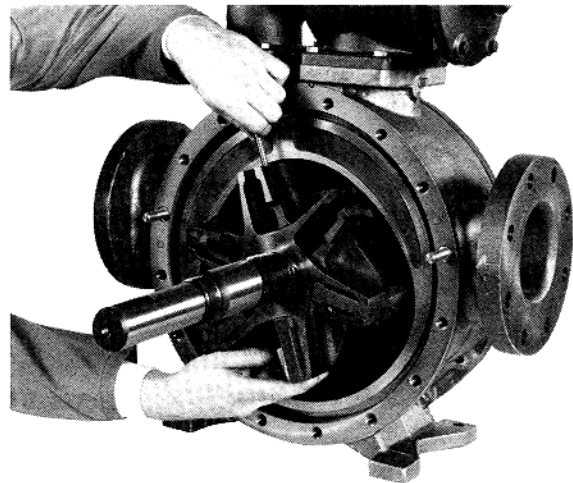

Figure 8
If the pump is connected to the system, it will be necessary to install the three bottom vanes and the push rods while installing the rotor and shaft. To do so, partially install the rotor shaft through the disc bore, being careful not to damage the disc face. Part of the rotor should remain outside of the casing such that the three bottom vanes (rounded edge outward) can be inserted into the rotor slots and held in place while all three push rods are inserted (see Figure 8). The rotor and shaft, with the three (3) bottom vanes installed, should then be **fully** inserted into the casing. Install the remaining vanes in the top positions. (See “Vanes” for proper installation.)